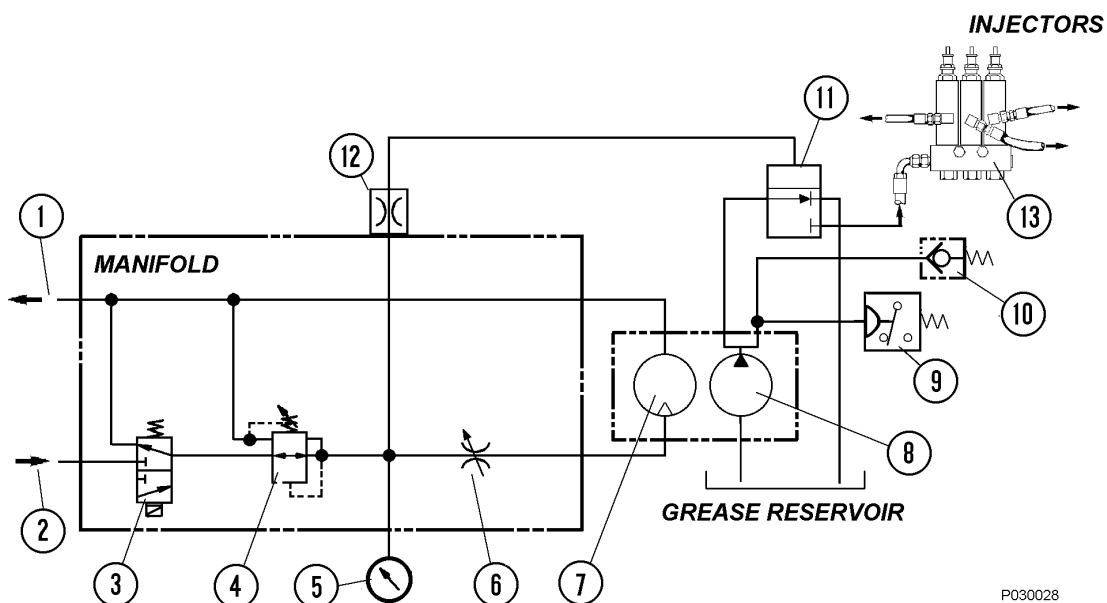
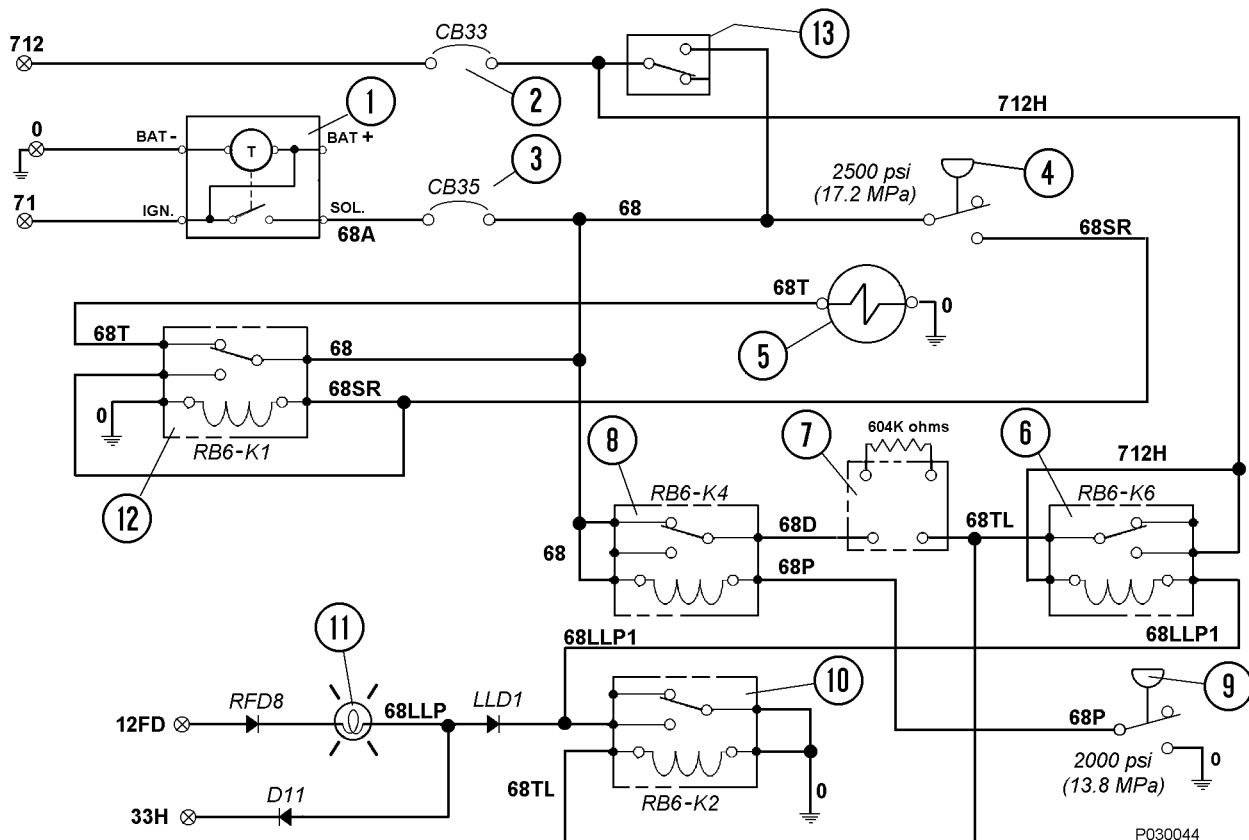

FIGURE 42-5. HYDRAULIC SCHEMATIC
FIGURE 42-6. ELECTRICAL SCHEMATIC
Time delay module (7, Figure 42-6), located in the electrical interface cabinet, provides a one minute delay in the low pressure warning light circuit to allow a normally operating system to attain full grease system pressure without activating the warning light. If the system fails to reach 13789 kPa (2000 psi) within this period of time, the timer will apply 24VDC to several relays, which will illuminate the low pressure warning light in the overhead panel. An external 604K ohm resistor determines the delay period.
Refer to Figure 42-5 and 42-6:
1. During truck operation, lubrication cycle timer (1, Figure 42-6) will energize the system at a preset time interval.
2. The lubrication cycle timer provides a 24VDC signal through normally closed relay board (12) used to energize pump solenoid valve (3, Figure 42-5), allowing hydraulic oil provided by the truck steering pump circuit to flow to the pump motor and initiate a pumping cycle.
3. The hydraulic oil pressure from the steering circuit is reduced to 2240 to 2413 kPa (325 to 350 psi) by pressure reducing valve (4, Figure 42-5) before entering the motor. In addition, the amount of oil supplied to the pump is limited by flow control valve (6). Pump pressure can be read using pressure gauge (5) mounted on the manifold.
4. With oil flowing into the hydraulic motor, the grease pump will operate, pumping grease from the reservoir to vent valve (11) and then to injectors (13). Pressure switch (9) prevents over pressurization.
6. When 20685 kPa (3000 psi) grease pressure reaches pressure switch (4, Figure 42-6) setting, the switch contacts will close and energize relay K1 (12), removing power from grease pump solenoid valve (5) and the pump will stop. The relay will remain energized until grease pressure drops and the pressure switch opens again or until the timer turns off.
7. After the pump solenoid valve is de-energized, hydraulic pressure in the manifold drops and vent valve (11, Figure 42-5) will open, releasing grease pressure in the lines to the injector banks. When this occurs, the injectors are then able to recharge for the next lubrication cycle.
8. Unloader valve (10) prevents excessive grease pressure if the pressure switch fails to close and shut off the hydraulic supply to the pump. The unloader valve will open at approximately 27.6 MPa (4000 psi).
1. When the lubrication cycle is initiated, 24VDC flows through relay RB6-K4 (8, Figure 42-6) N.C. contacts to one minute time delay module (7).
2. If the system is operating normally, grease pressure at the rear axle injector bank will rise to pressure switch (9) setting of 13.8 MPa (2000 psi), closing the switch contacts and energizing relay RB6-K4 (8), removing 24 Volts from the time delay module. The timer is then reset and no current will flow from the timer output terminal.
3. If a problem occurs and the system is not able to attain 13.8 MPa (2000 psi), then time delay module (7) will energize relay RB6-K2 after 60 seconds, turning on the Low Lubrication System Pressure warning lamp on the overhead display. After RB6-K2 energizes, it will ground the coil of RB6-K6 and allow it to energize.